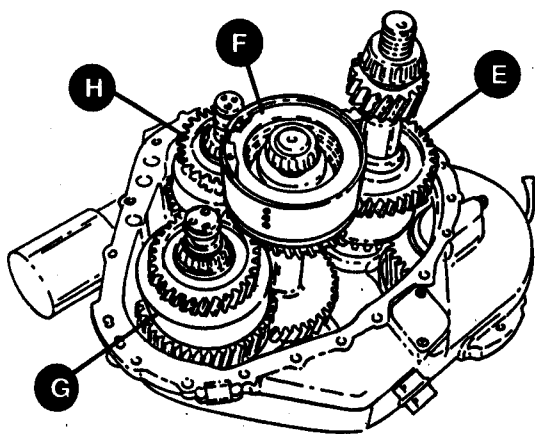

Figure 12.
14. Tilt and lift out the layshaft assembly (E, Figure 12).